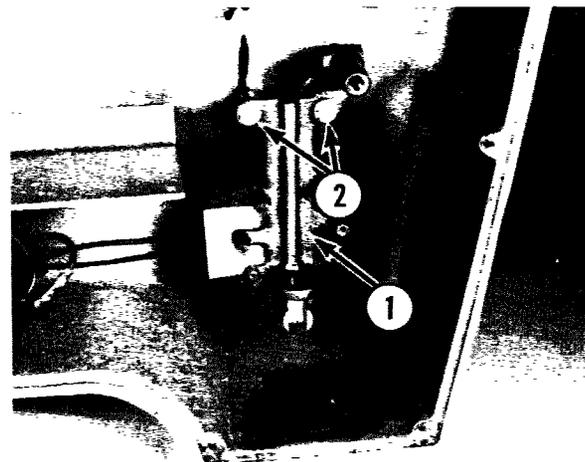

Fig. 2-44
E. Switch interlock frame removal (1, Fig. 2-44).
- (1) Remove switch rod (step A), interlock pin bar (step B), switch control shaft (step C) and On/Off switch (step D).
- (2) NOTE: Care must be taken to insure that the roller on the interlock switch does not catch on the lip of the interlock shaft. Remove two screws (2, Fig. 2-44) and remove the frame.